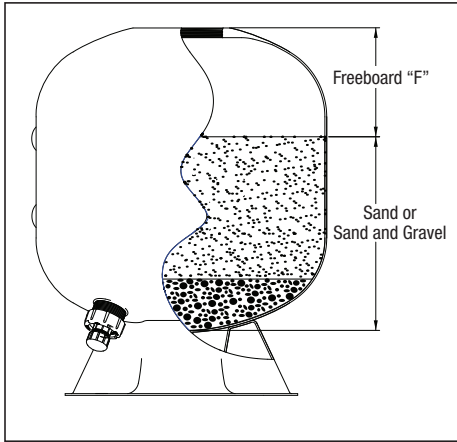

Figure 10. Sand Level
5. If used, pour pea gravel SLOWLY into the filter first. Level the surface of the gravel, and then pour in the appropriate amount of sand to the level indicated in Table 2. If using sand only, pour it into the filter SLOWLY to the level indicated in Table 2. Be careful not to dislodge the vent tubing from its fitting in the piping while adding filter media. Refer to Figure 10.
2. Fill the filter with Zeobrite to the level shown in Table 3. The weight of the material shown is approximate. See Figure 10 for the illustration of "Freeboard".